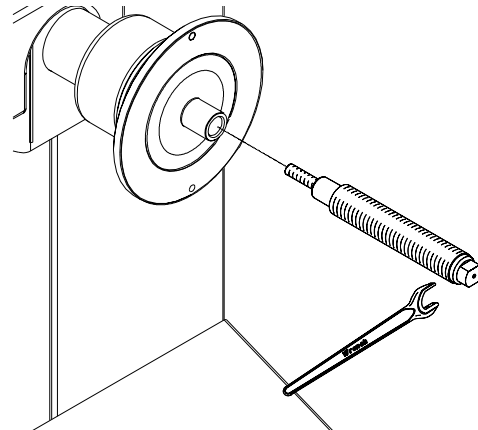

Figure 7
**A.** Mount the threaded shaft onto the arbor of the balancer. Tighten firmly using the supplied wrench. (Fig.7).